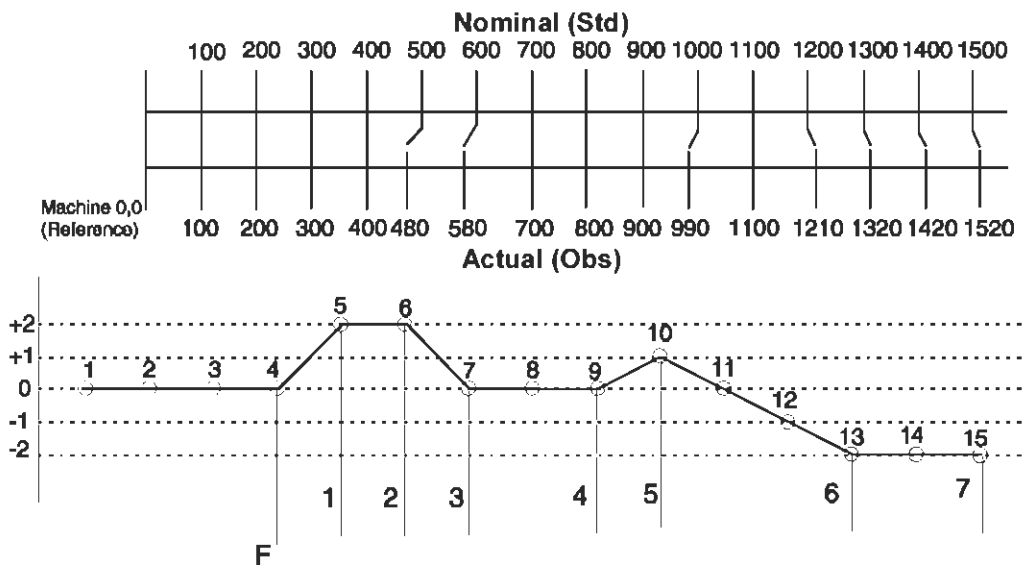

Figure 1
- As mentioned earlier, a segment is a group of known points that may be combined together to form a single linear line. Looking a figure 1, you can see that no calibration was needed for points 1 though 4 (reference 0 line). These four points can be connected to form 1 line. Now, let's look at the next one.
- If you tried connecting points 4 and 6, then point 5 would not be connected. This means that our first segment must be from point 4 to point 5. (See figure 1).
14. Press **ENTER**. "*1st X: 0.00000*" appears in the message window. The first calibration point is the first GOOD point before compensation begins. In figure 1 our first point was 400.